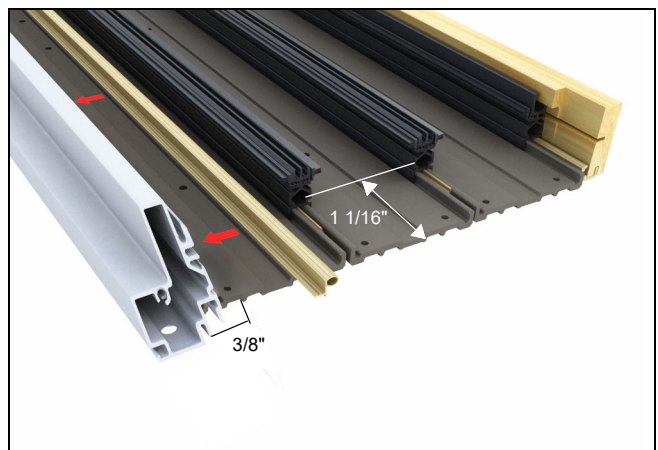

Figure 13
10. Insert bulb weather strip into kerf, adjacent to pile weather strip. See figure 13.